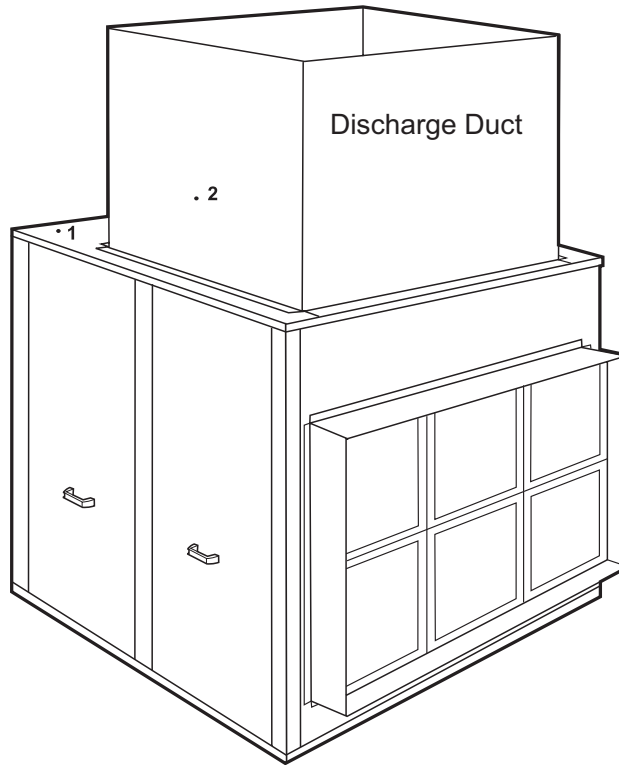

Figure 22 - QV (20-30) ton showing location of Air Balance Ports
5. Use a magnehelic or inclined manometer or a differential pressure meter to measure the air pressure drop across the reheat coil. See Figure 22.